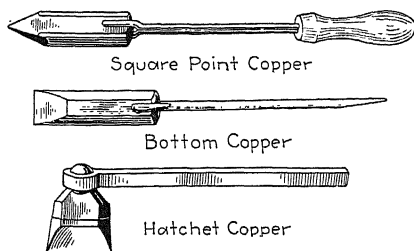

FIG. 241.
**279. Soldering Coppers.**—Soldering coppers (Fig. 241) are made in different shapes and of varying weights. The square-pointed copper is used more for general work than such shapes as the blunt roofing copper or the chisel-shaped bottom copper. A small copper should not be used on heavy work because it will not keep its heat long enough. On the other hand a copper that is too heavy is unnecessarily clumsy for light work. It is very necessary that the copper be properly “tinned” and